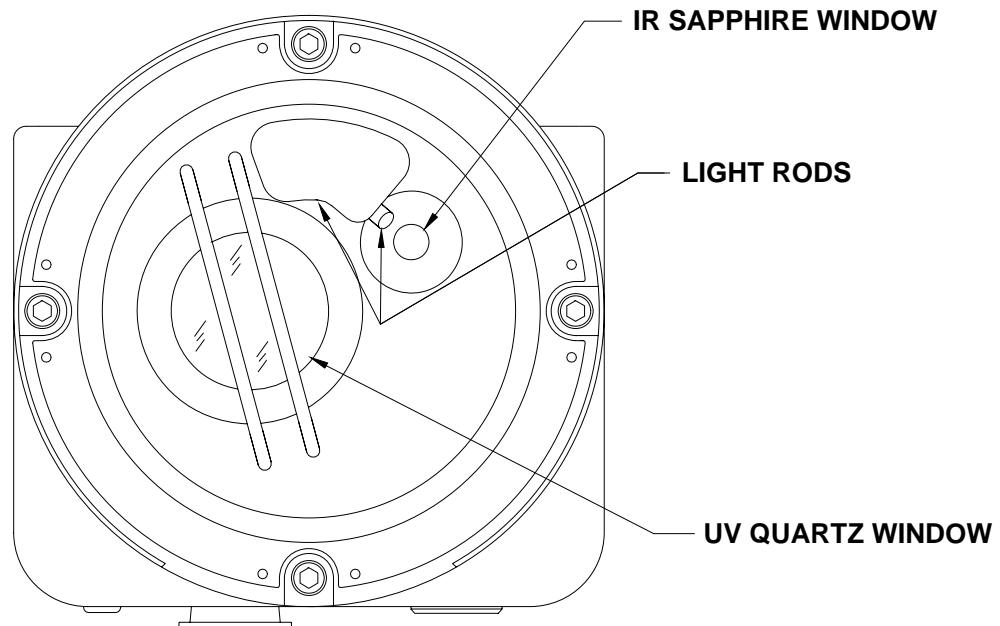

Figure 20: UV and IR Windows
4. Repeat steps 1, 2 and 3 for the light rods (Figure 20). Take care only to clean the non-coated (non - aluminum) areas of the light rods.